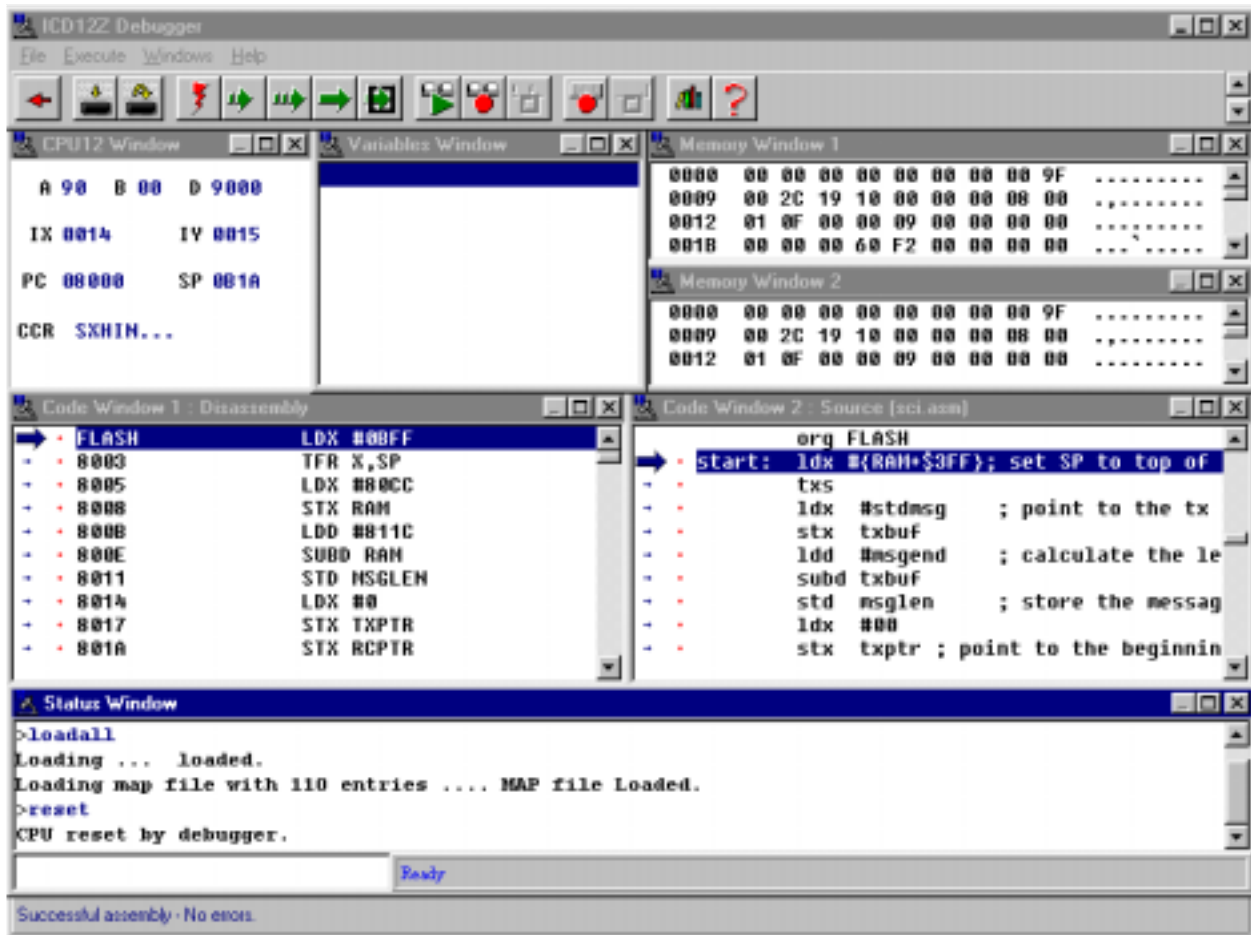

Figure 8. P&E's Debugger Window
8. Launch the debugger. If the correction assistant window opens, select the correct parallel port being used. Defaults should work for the other options in this window. See Figure 8.